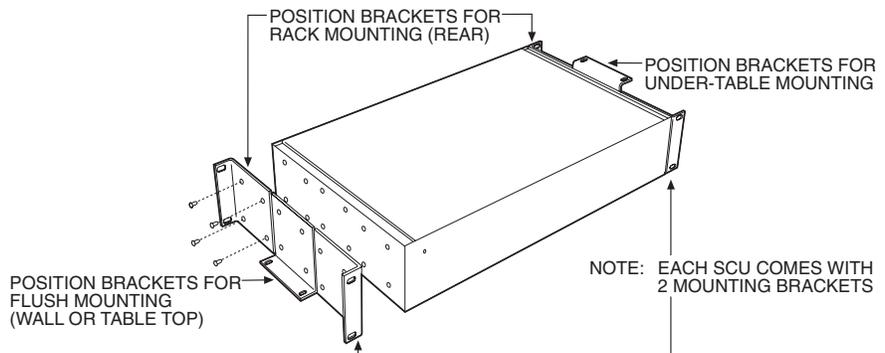

Figure 7. Installing Mounting Ears
2. Refer to Figure 7. Position mounting ears on the sides of the SCU for the appropriate mounting. If the ears are not required, leave them off.